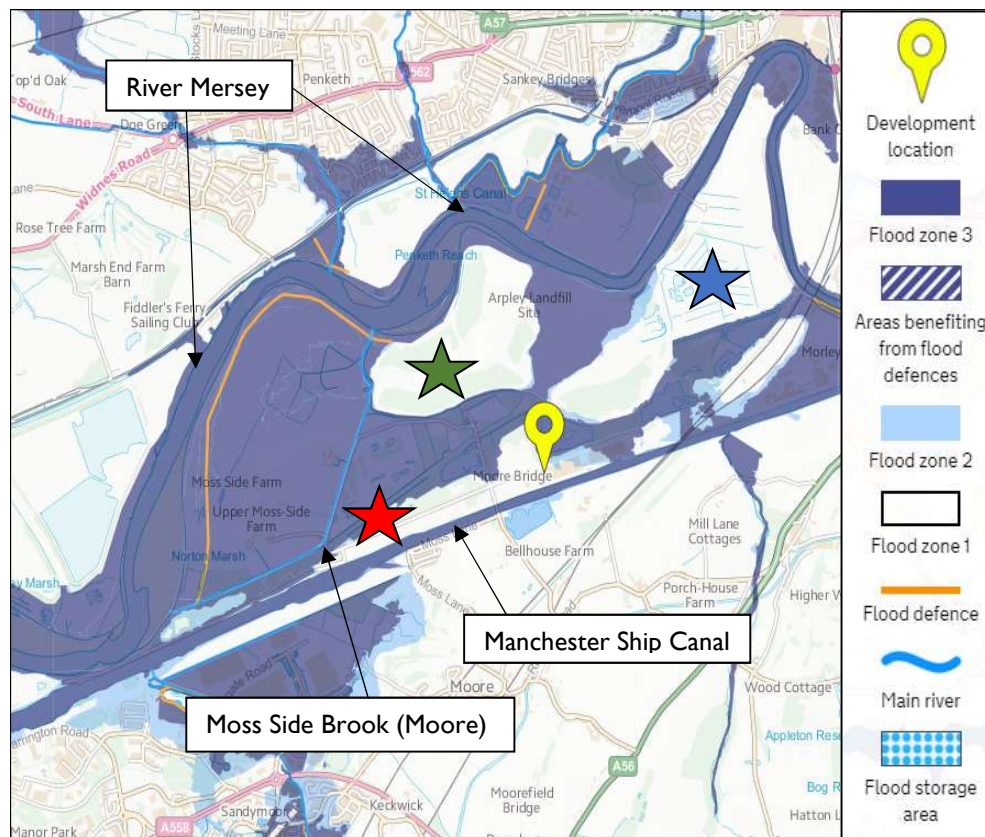

Figure 2.1 Flood Map for Planning (Gov.UK)
2.1. The Gov.UK online Flood Advice Maps provide a brief overview of the Flood Risk onsite and in the surrounding area. The Flood Advice Map in **Figure 2.1** indicates that the;
2.7. These proposed development types/land uses are suitable within the Flood Zones identified in **Figure 2.1** (Flood Advice Map).